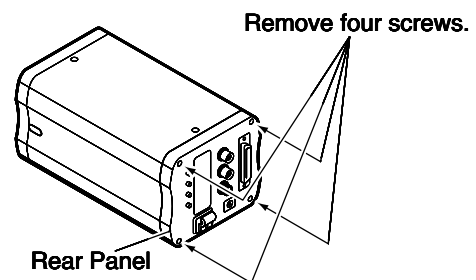

Fig. 2-1
- Referring to Fig. 2-1, remove four screws that secure the Rear Panel and remove the Rear Panel on Main unit.